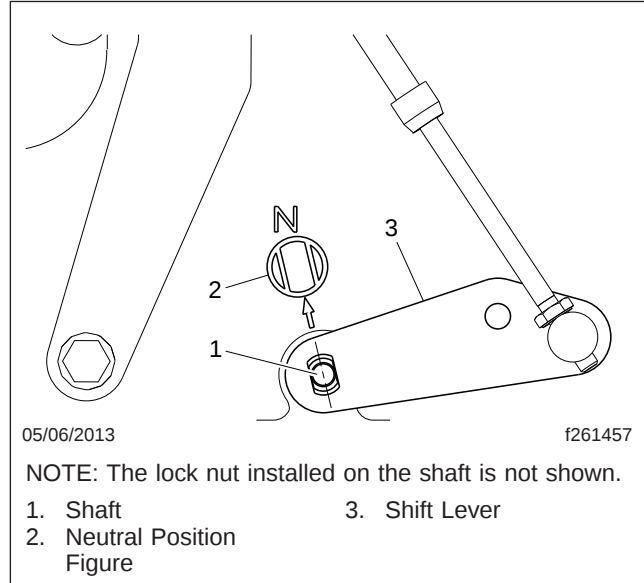

Fig. 13, Shift Lever Neutral Position, Kit KPP 294201
14. Make sure the shift control on the dash is set to NEUTRAL, and the shift lever on the transmission is in the neutral position, as indicated by the flats on the shaft and the neutral position figure cast into the transmission. See **Fig. 13**.